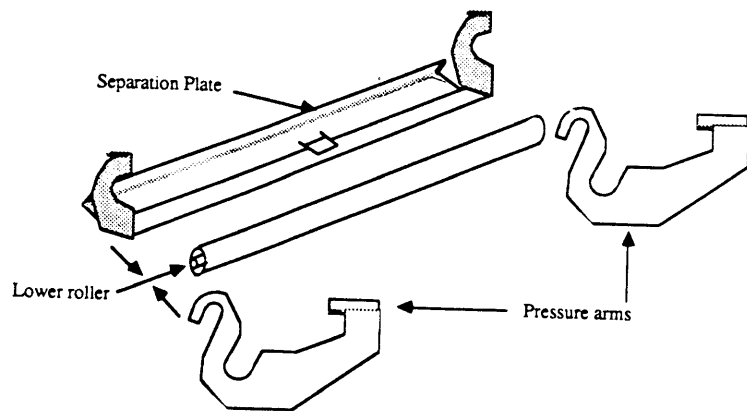

FIGURE 2-28
4. To remove the lower roller, lift the roller, the two pressure arms (one at each end—see Figure 2-28), and the shiny separation plate up out of the assembly. (This is not easy: be prepared to fumble with it a bit.)